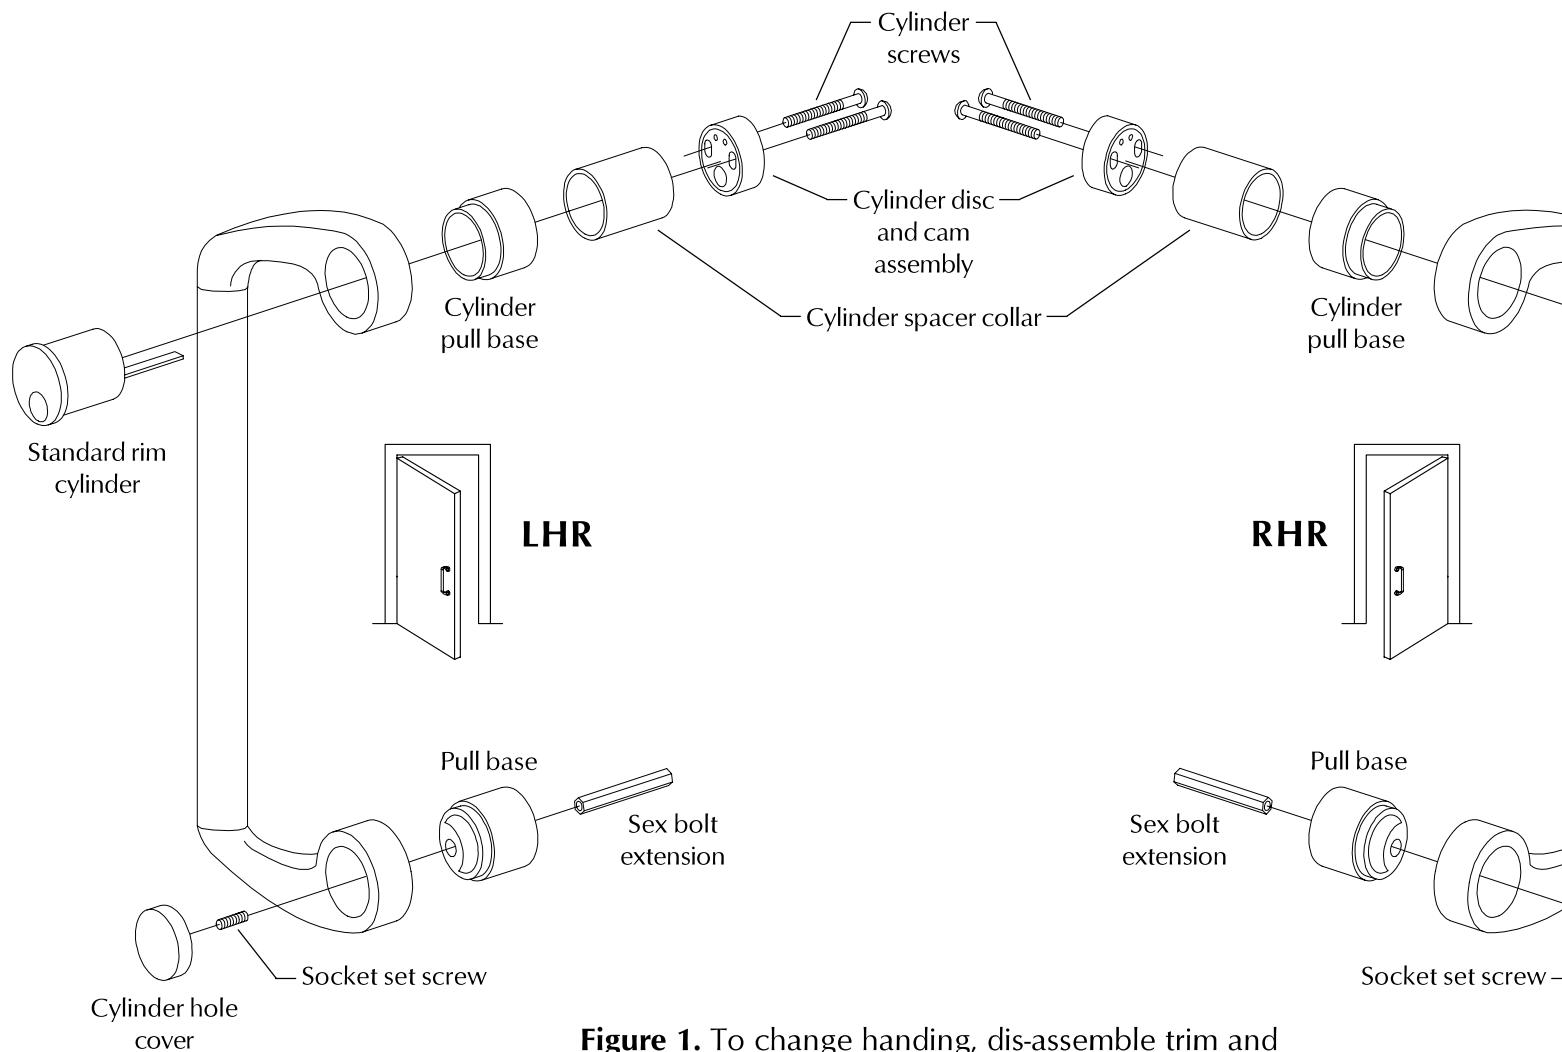

Figure 1. To change handing, dis-assemble trim and re-assemble with pull handle in required position.
4. Change handing of trim if necessary (see Figure 1, other side):
- B. Install cylinder and assemble component parts (see Figure 1, other side).